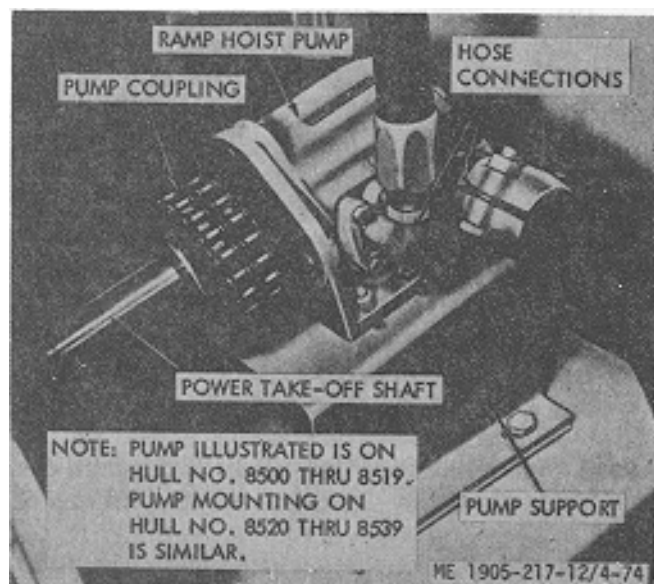

Figure 4-74. Ramp hoist hydraulic pump.
*b. Removal (fig. 4-74).*
(1) Clean hose connections at pump, disconnect lines, and cap open ends.
(2) Remove pump coupling.
(3) Remove pump from support.